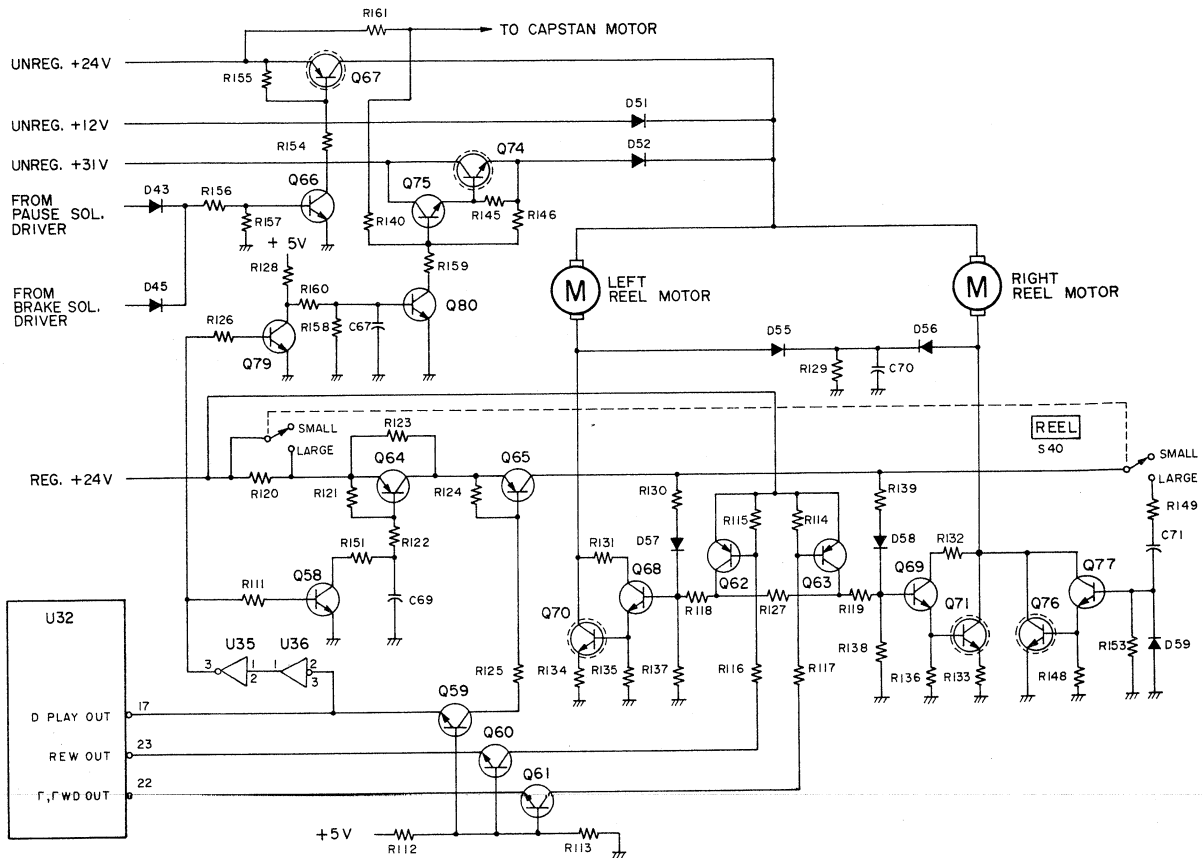
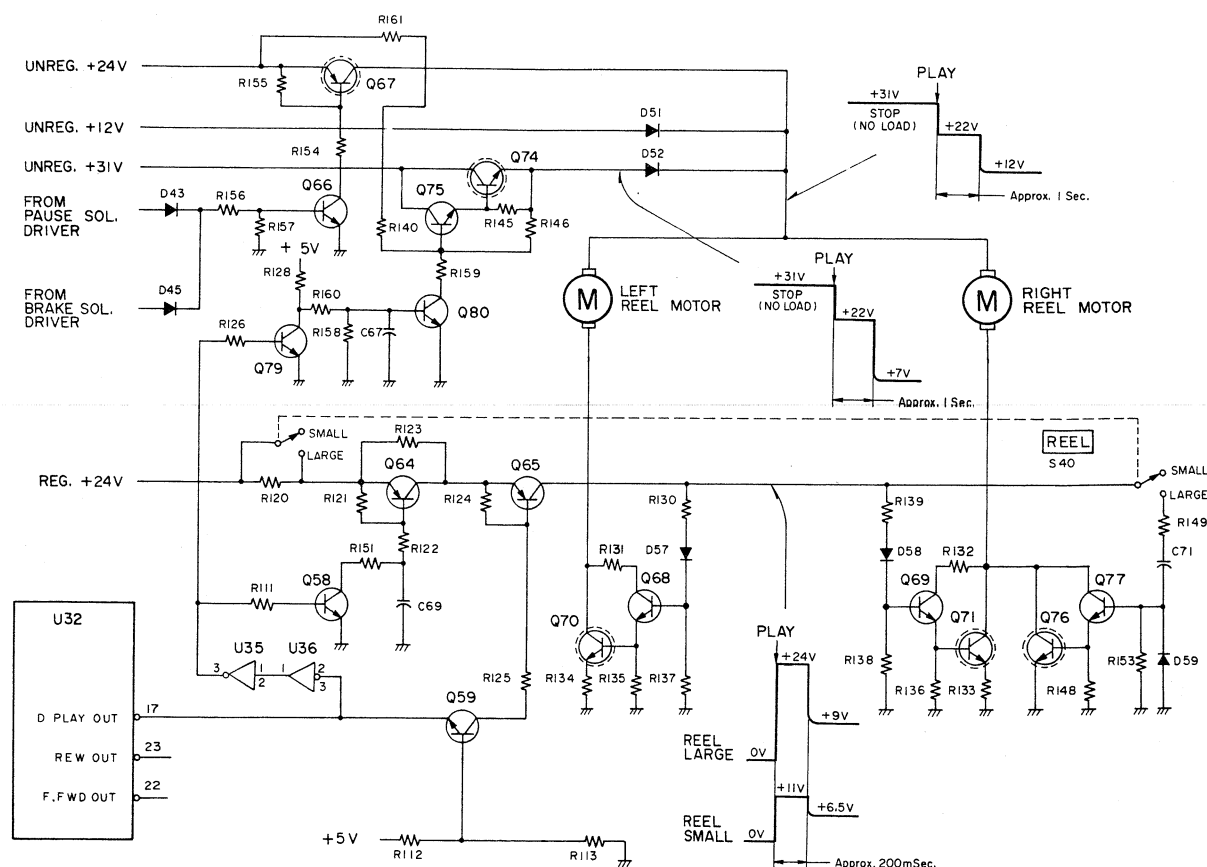
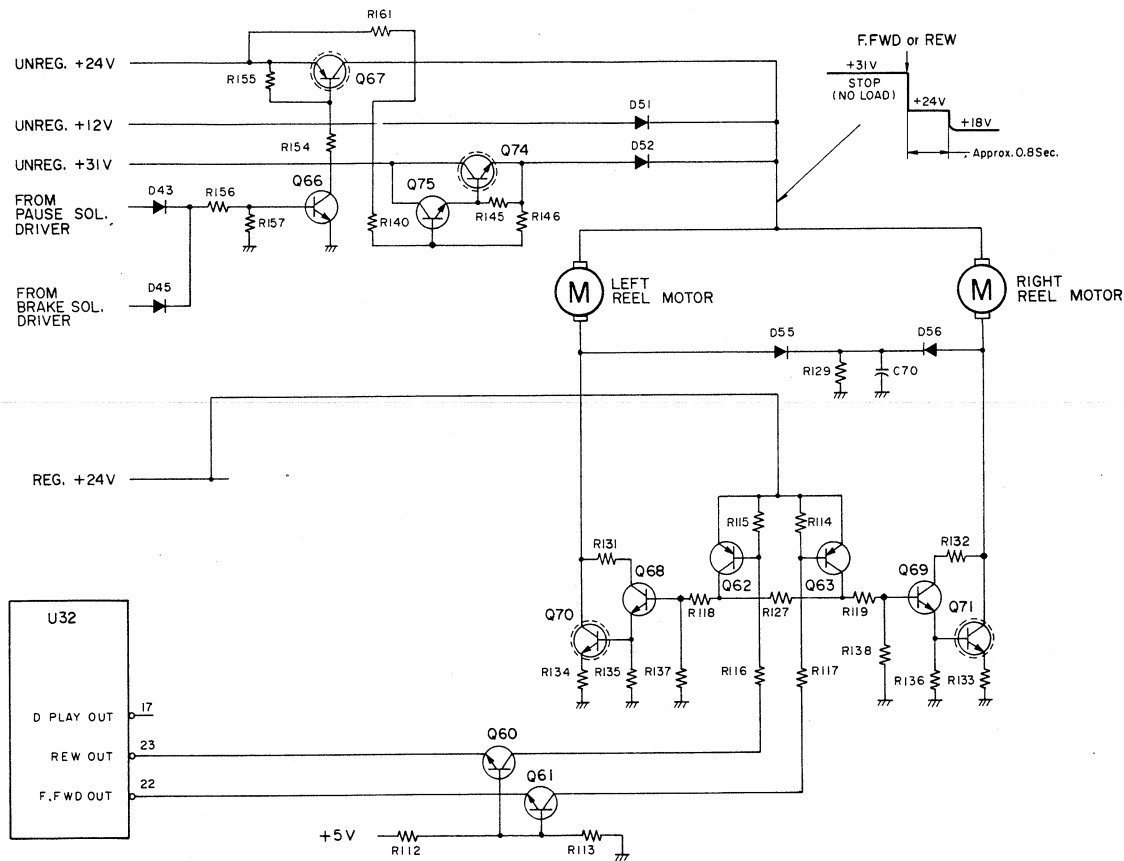

Fig. 7-8 Reel motor drive circuit
Fig. 7-9 Play operation (from Fig. 7-8)
Fig. 7-10 F. FWD and REW operations (from Fig. 7-8)
The reel motors are slotless DC motors. The drive circuit for them are as shown in Fig. 7-8. There are no adjustment points on the circuit.
Fig. 7-9 shows the circuit relative to PLAY operation. It is taken from Fig. 7-8. In Fig. 7-9, When the 32-2 is in the STOP mode, the conditions of the IC terminals and transistors are as below.
- Q58 being off allows charge current to flow to C69 through Q64 and R122. With the increase in C69 charge potential, Q64 gradually goes off. Therefore current flow route to Q65 side shifts from Q64 to R123. As a result, as shown in Fig. 7-9, the Q65 collector voltage is high when PLAY mode begins, then after approximately 200 msec drops to a lower level state. This gives a larger torque to the reel motors when they first start up so as to take up tape slack.
Fig. 7-10 shows circuit relative to F. FWD and REW operation, taken from Fig. 7-8.